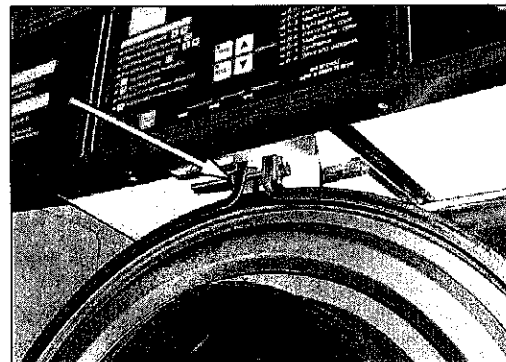

fig.7
- Take out the joint screw of the fastening ring of the front panel (figure 7). Remove the ring.